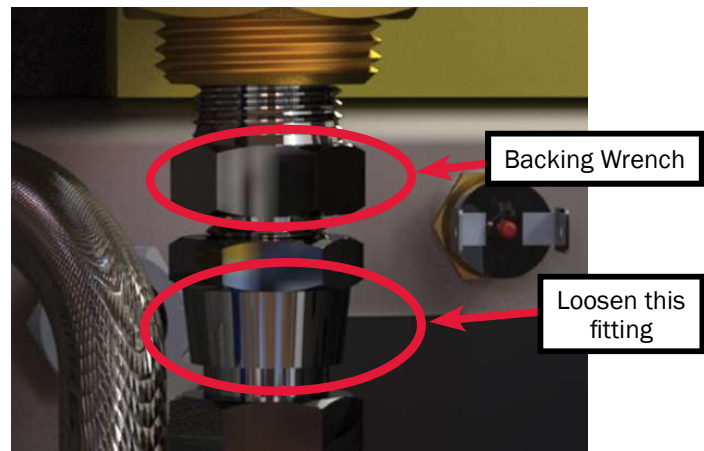

Figure 63
4. Using two $\frac{3}{4}$ " wrenches, loosen, but do not completely remove the bulkhead fitting. Reference Figure 63.